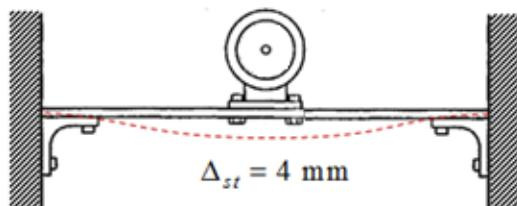

Figure 3
3. An electric motor of mass $M = 30 \text{ kg}$ is centrally mounted on a beam of negligible mass as shown in Figure 3. The static deflection (Δ_{st}) caused by the weight of the motor at the mid-section of the beam is 4 mm. If the motor is pushed downwards by 8 mm from the static equilibrium position, the amplitude of vertical oscillation of the motor is observed to dampen to 1 mm in 2 cycles.